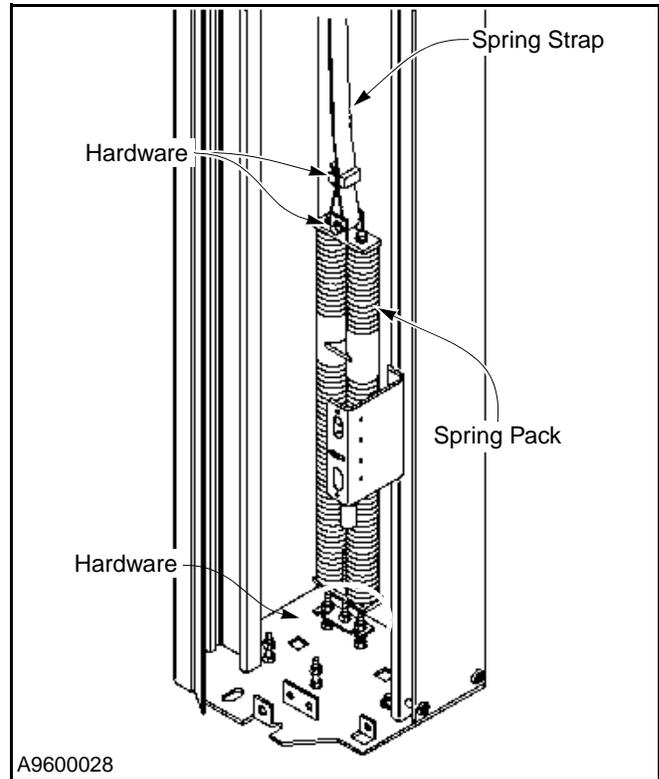

Figure 29
3. Inspect each spring pack assembly. Springs should not be stretched, worn, or damaged. Replace if necessary. Tighten the hardware as required. Replace any missing or damaged hardware. (See Figure 29.)